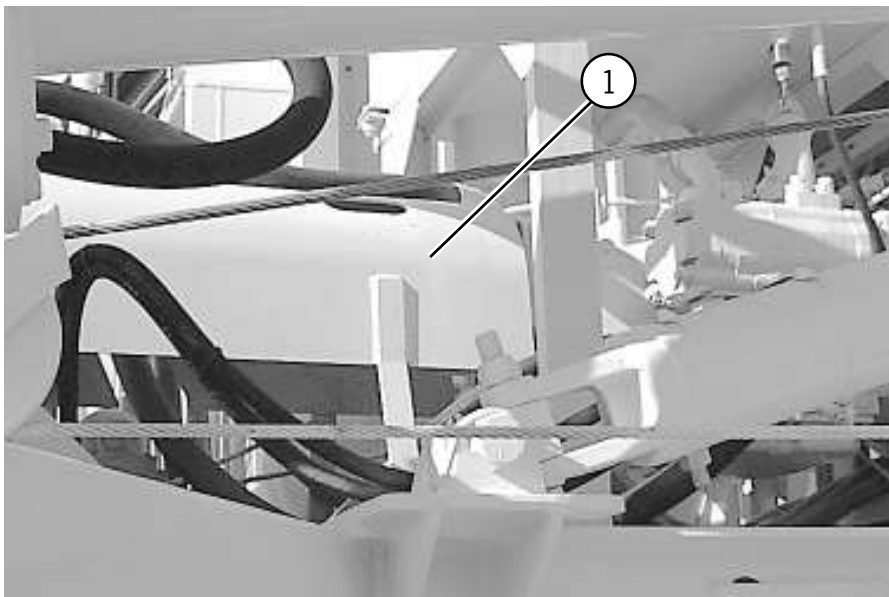

Fig. 4-4b Driveline Assembly
1. Look through the inspection hole in the driveline guard (fig. 4-4b) to be sure that the problem is with the shear pin. If the shear pin is broken, the input and output hubs will be out of alignment with respect to the shear pin.